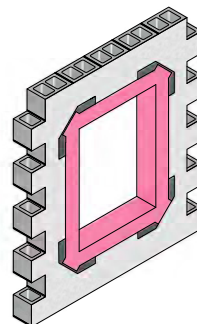

Figure 14
1. Apply MasterSeal AWB 950 P to the head, sill and jambs, including the MasterSeal AWB 975 FIB, covering all areas that will subsequently receive MasterSeal AWB 970 FIB. (See Figure 14).